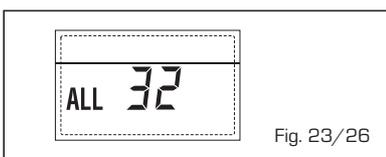

Fig. 23/26
- **RS-485 BOARD COMMUNICATION ANOMALY IN MODBUS MODE "ALL 33" (fig. 23/27)**